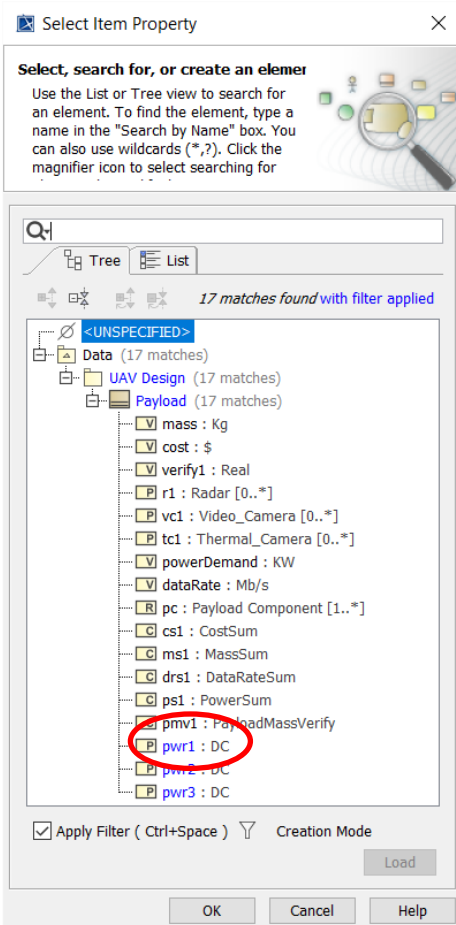

Figure 10 Selecting Item Property
- In the final window (Figure 10), expand the tree and double-click **pwr1:DC**.